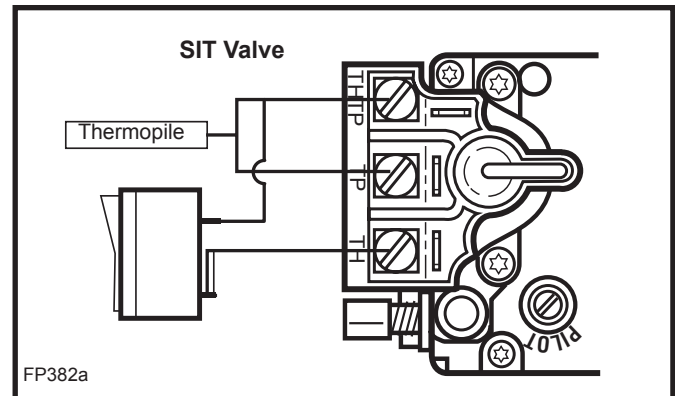

Fig. 7a On/Off switch or millivolt thermostat.
4. Connect wiring to gas valve (Fig. 7a,b) and switch.